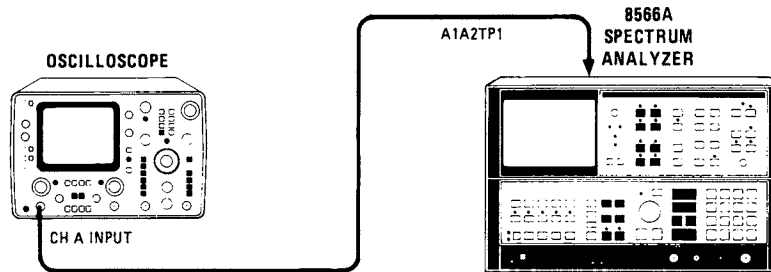

Figure 5-15. Final Display Adjustments Setup
4. Note graticule lines. If graticule lines appear to be out of focus, connect oscilloscope to A1A2TP1 as shown in Figure 5-15.
1. Position instrument upright as shown in Figure 5-15 and remove top cover.